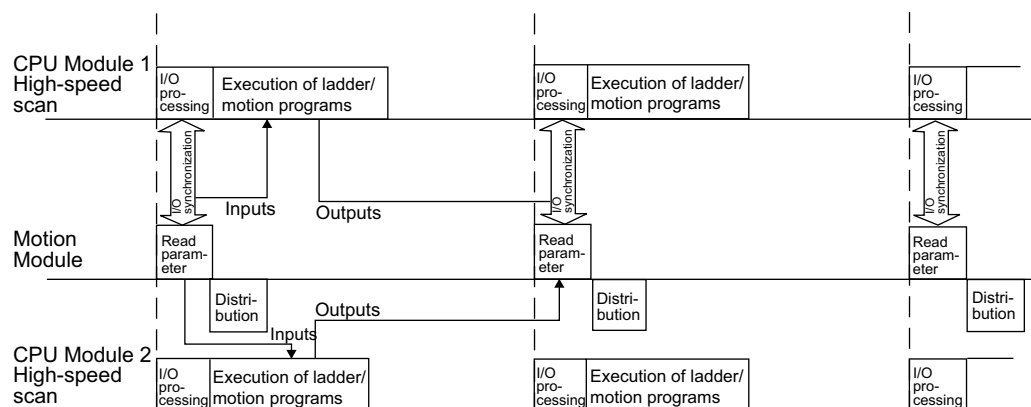

Fig. 9.5 Synchronization with a Motion Module
* 2. For the default setting, both CPU Module 1 and CPU Module 2 are synchronized on the high-speed scans as shown in *Fig. 9.5*. A Motion Module, however, executes commands at the input and output timing of the Control CPU Module (CPU Module 1) and its execution is not synchronized with the Sub CPU Module (CPU Module 2). Accordingly, when controlling a Motion Module from the Sub CPU Module, do not access the Motion Module from the Sub CPU Module immediately after the start of scanning.